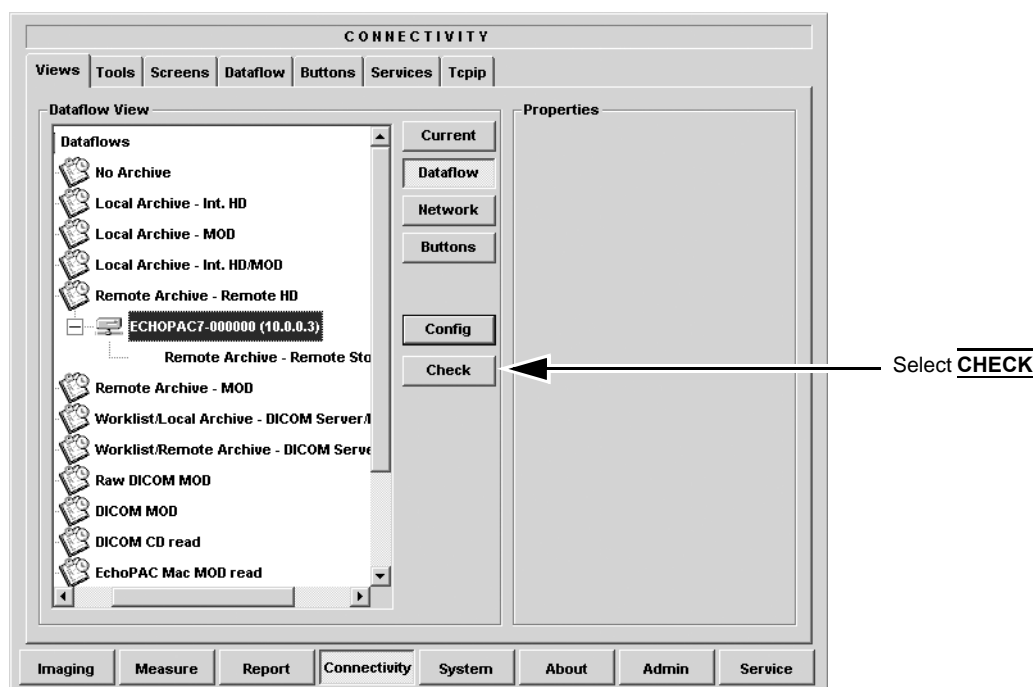

Figure 3-122 Verify dataflow connection
- 7.) Select **CHECK**, see Figure 3-122, to verify if there is a connection between the ultrasound unit and the EchoPAC PC Workstation.